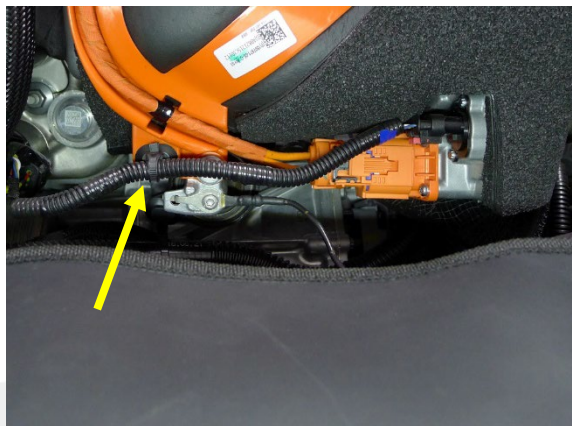

Figure 4
6. Release the clip that attaches the A/C compressor LV logic harness to the A/C compressor HV harness bracket (Figure 4).